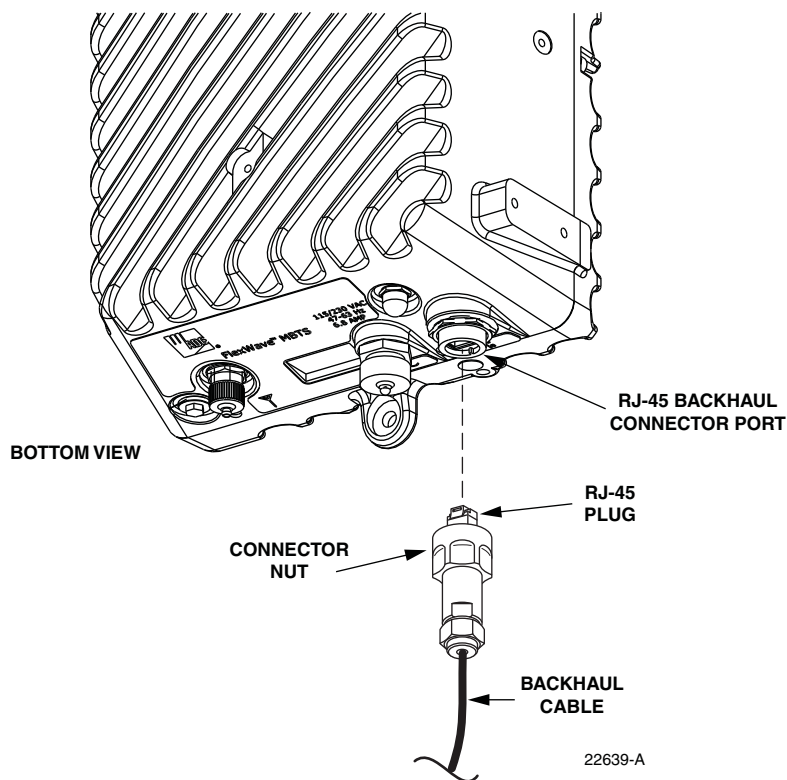

Figure 4-3: IP backhaul Cable Installation
- 1 Remove the dust cap from the RJ-45 connector located at the bottom of the enclosure as shown in Figure 4-3.